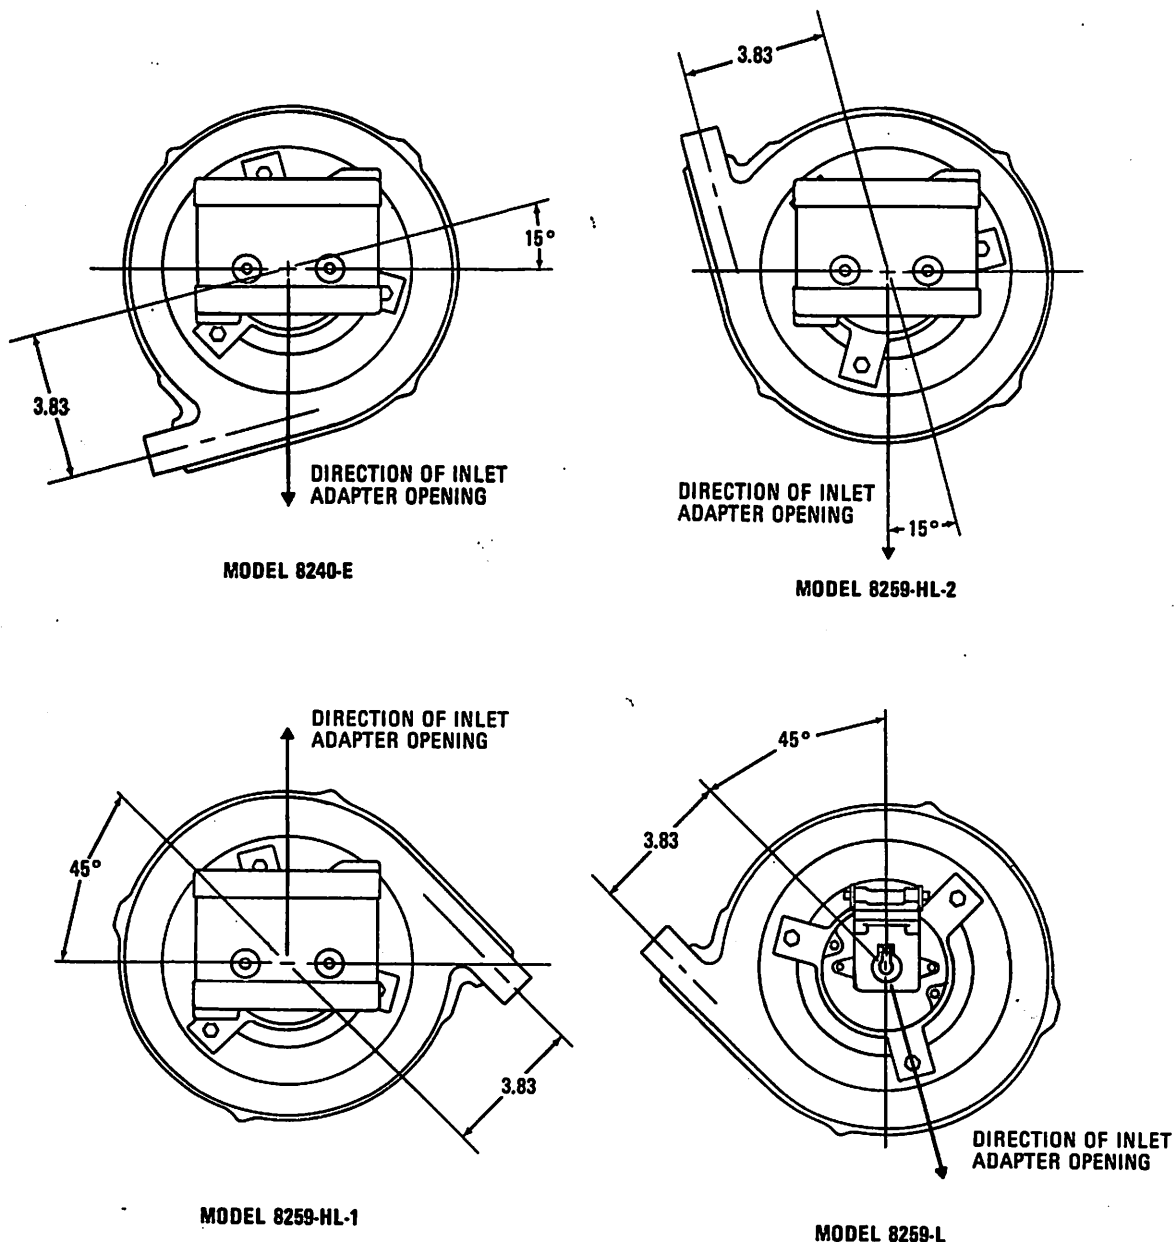

Figure 6-2. Assembly Positions of Combustion Air Blower and Fuel Pump Components
b. Before installing inlet adapter (1), loosen set-screw of blower wheel (20) and adjust the wheel to clear both the front and rear blower housings (17 and 21) uniformly. Retighten the setscrew.
c. Refer to figure 6-2 to orient the parts of the combustion blower and fuel pump to the positions required on the various heater models.